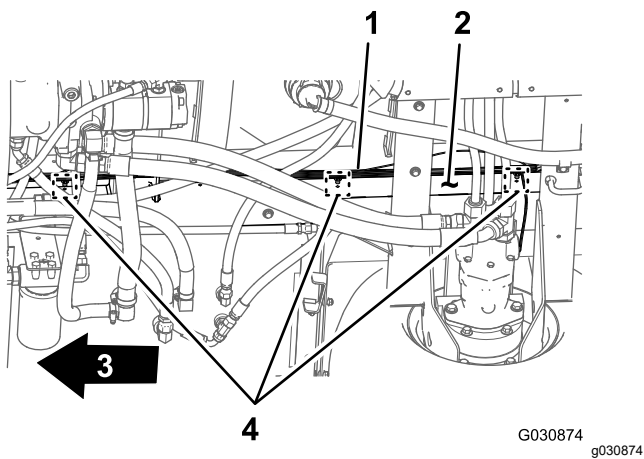

Figure 21
- Remove the 3 push-in fasteners that secure the rear wire harness to the holes in the right frame tube of the machine (Figure 21).